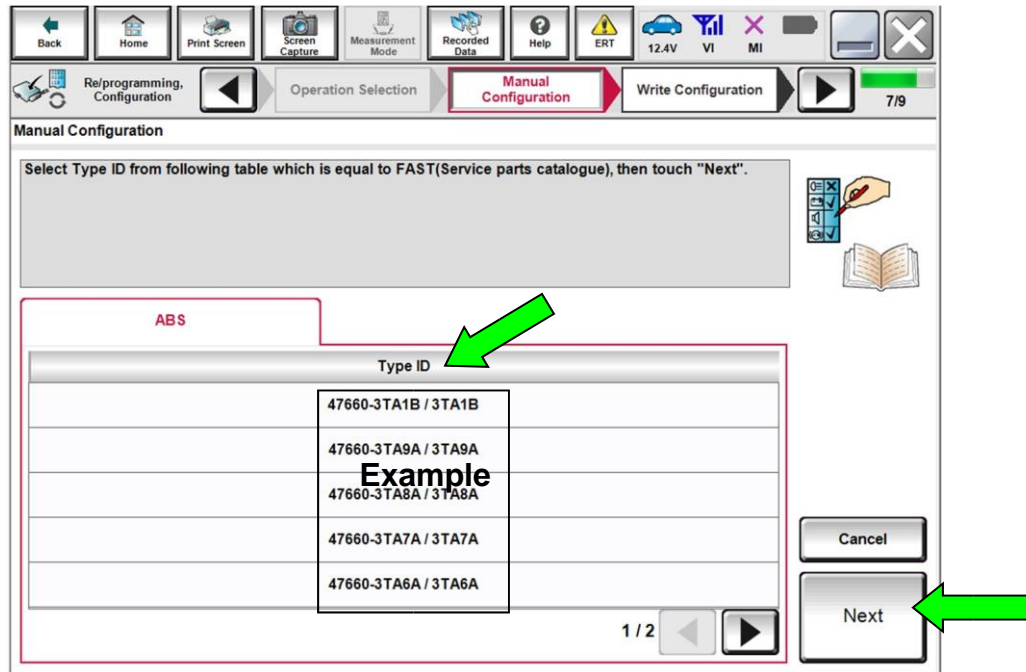

Figure 12
22. Select the Type ID (Figure 12) that was generated with the R1917/R1921 ABS Type ID Selection Tool in step 7.